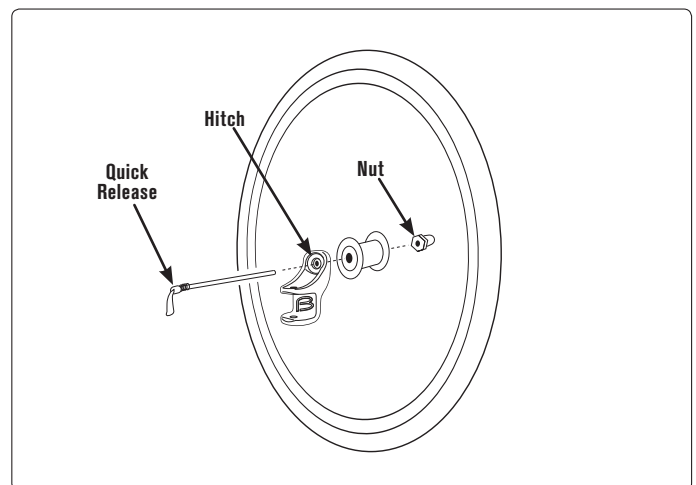

FIGURE 4
3. Loosely reassemble quick release assembly through hitch, dropout and wheel. **FIGURE 4**